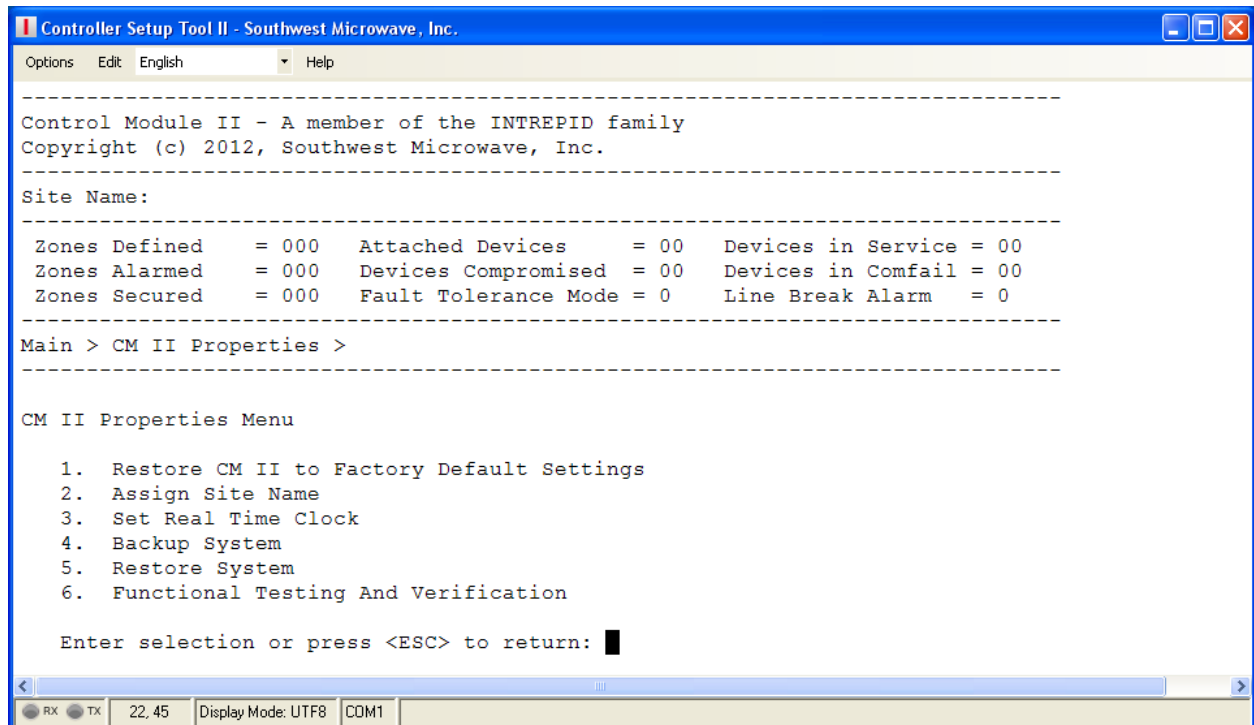

Figure 10 –CM II Properties Screen
Selecting “1” from the Main Menu will open the “CM II Properties” menu as shown in Figure 10. There will be six (6) command selections available.